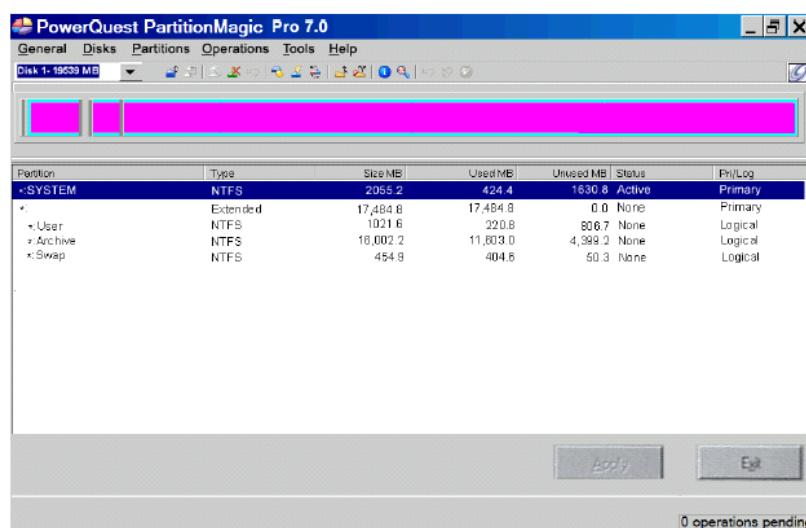
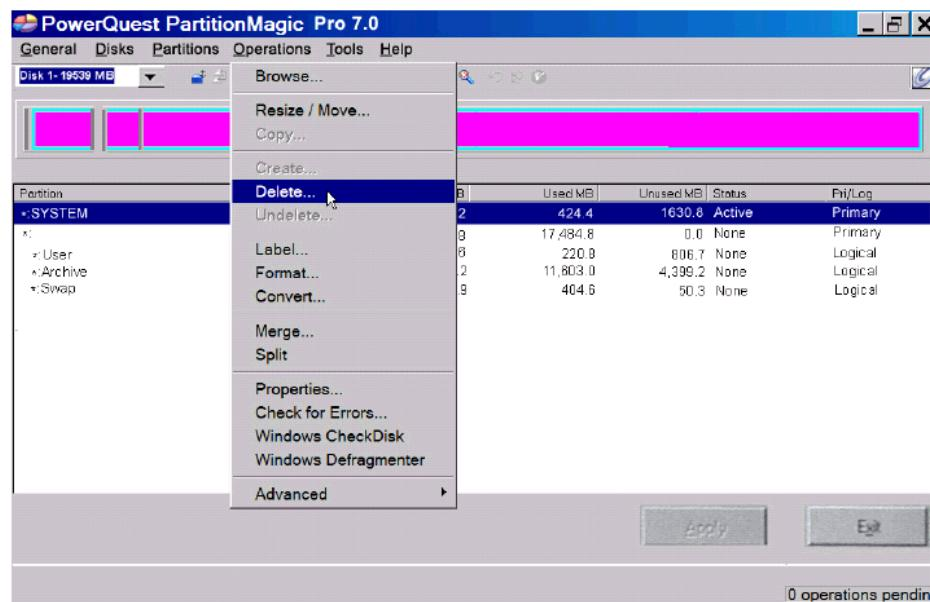

Figure 8-72 Partition Magic Screen
Figure 8-73 Operations Menu
- 10) With the System partition selected (highlighted, as shown in Figure 8-72), delete the partition by selecting the **Delete** Tool under the *Operations* menu, as shown in Figure 8-73 below: